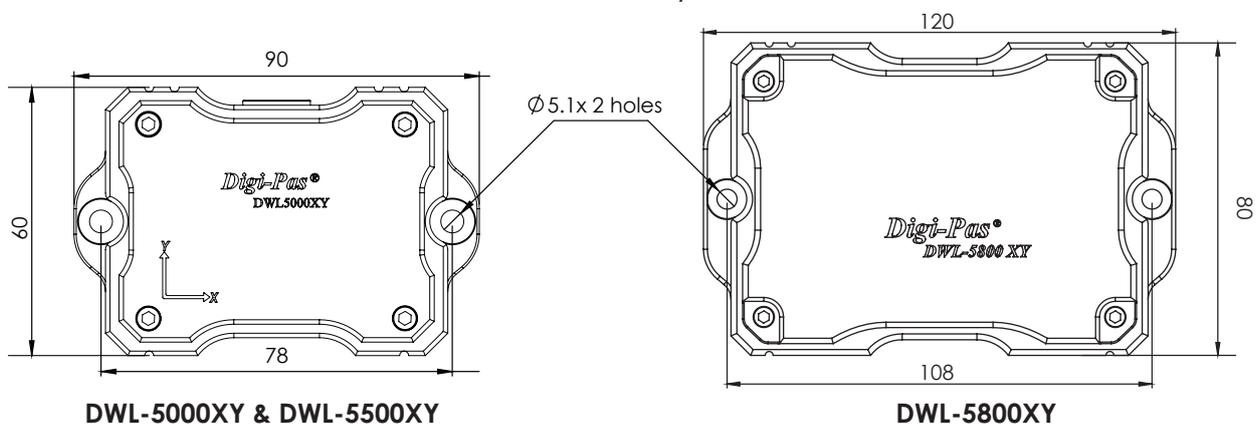
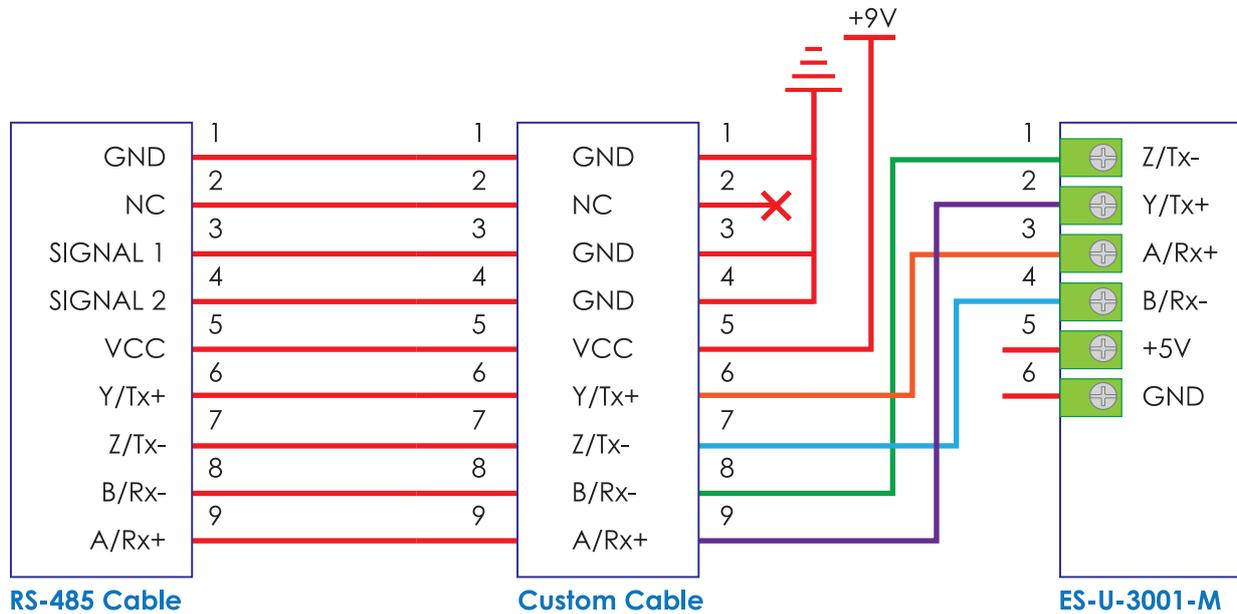

Figure 8. Two 5.1mm diameter holes is provided to mount the tilt sensor module in Single Axis
Figure 10. Connection pinout of the sensor cord, custom cable and ES-U-3001-M converter
2. Connect the custom cable with sensor cord and ES-U-3001-M converter as in Figure 8. The connection pinout is illustrated in Figure 10.